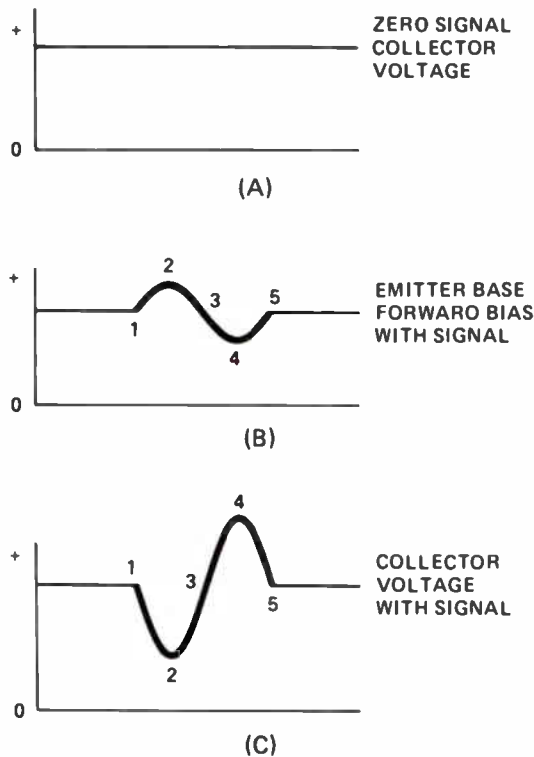

Figure 2. Waveforms for Fig. 1(C).
Figure 2(A), on the next page, is a graph representing the collector voltage with zero signal input. That is, in the circuit of Fig.1(C), the generator voltage is 0 volts. The only voltages applied to the transistor are B1 and B2. Under these circumstances, the voltage between the
Figure 2(B) shows what happens to the forward bias across the emitter-base junction when the generator begins to create a signal. The straight line represents the forward bias sup-
plied by B_1 . Let's suppose that starting at point 1 in Fig. 2(B), the generator voltage adds to the voltage of B_1 . Starting at point 1, the signal begins swinging in a positive direction until it reaches a maximum at point 2, then drops to 0 at point 3. At point 3 the polarity of the signal from the generator reverses, and begins subtracting from the voltage of B_1 . The forward bias then begins decreasing from point 3 to point 4 where it reaches its lowest value. Then, as the generator voltage begins increasing again, so does the forward bias from point 4 to point 5.
When the positive generator voltage adds to the voltage of B_1 , between points 1 and 3, the emitter current increases because of the increased forward bias. Not only does the current leaving the base and flowing through R_1 increase, but the current reaching the collector and flowing through R_2 increases. This means that the voltage drop across R_2 increases, causing the voltage between the collector and ground to decrease as shown in Fig. 2(C). Notice that the relatively larger current flowing through the collector causes the change in voltage between the collector and ground to be much greater than the change in voltage between the base and ground.
When the generator voltage reverses polarity, it subtracts from the voltage applied between the base and emitter by B_1 . Thus the net input voltage goes down. This causes the emitter current to decrease so that not only does the current flowing through R_1 decrease, but the total current flowing through the transistor and through R_2 decreases. When this happens, the voltage drop across R_2 decreases so that the voltage between the collector and ground increases, as shown between points 3 and 4 in Fig. 2(C). Again, notice that the change in voltage between the collector and ground is much greater than the change in voltage between the base and ground.